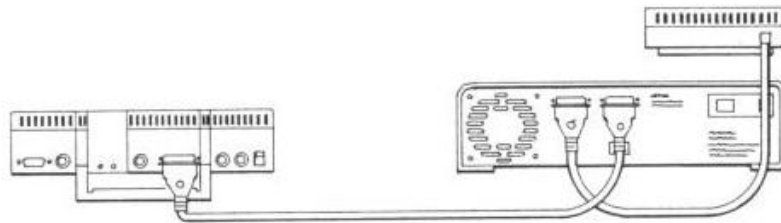

Figure 2-4. Hardware Configuration (Apple //c)
6. Your hardware configuration so far (assuming you connected an Apple //c external diskette drive in step 5) should appear as illustrated in Figure 2-4.